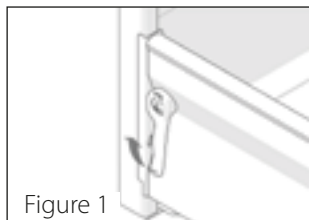

Figure 1
1. Pull the handle grip to move the sideboard aside (Figure 1 and 2)